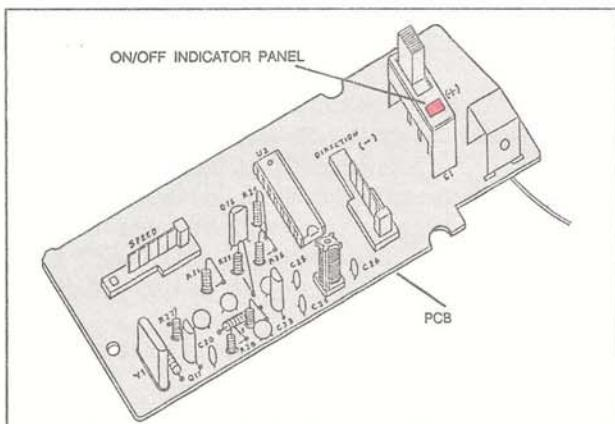

FIG. 67
Refer to Fig. 67 through 70 for this procedure.
- 1. Place the condition indicator panel over the ON/OFF switch as illustrated in Fig. 67.